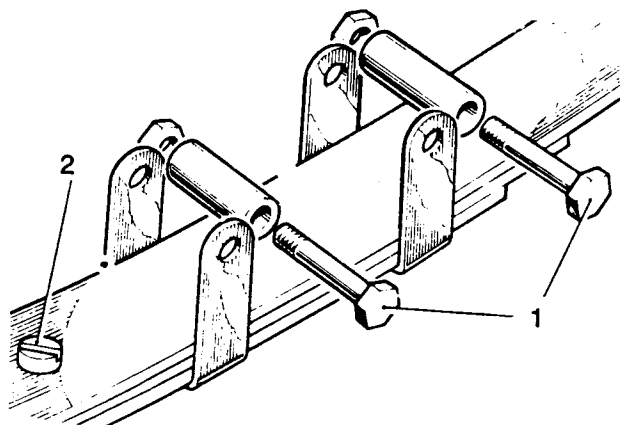

Fig I5.1
- (2) Refer to Fig I5.1. Remove the fixings (1) from the leaf clips, which may be bolts and nuts and/or long screws threaded into the leaf clips.
- (3) Remove the centre bolt (2) and nut to release the spring leaves.